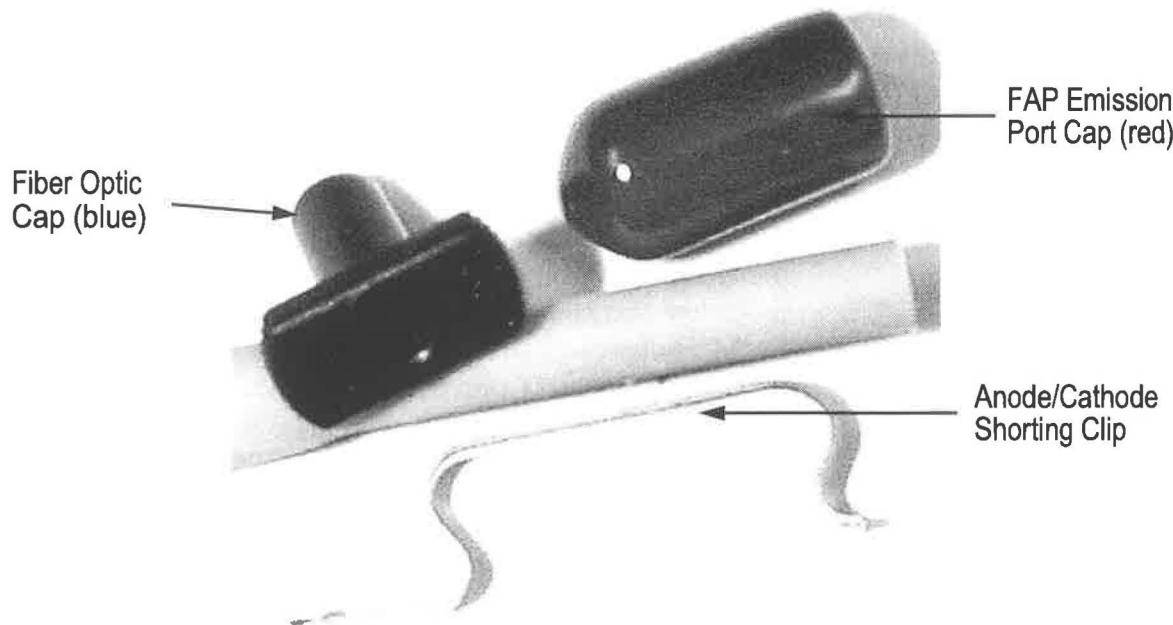
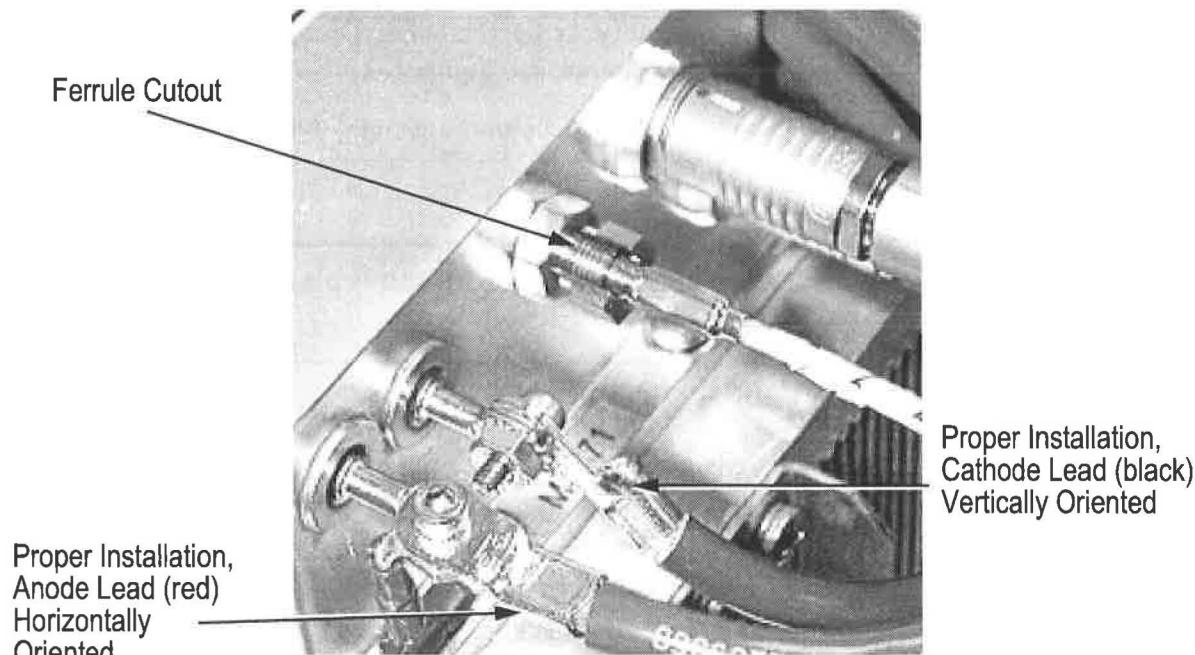

Figure 6-2. Fiber Optic Cap and FAP-I Anode/Cathode Shorting Clip
Figure 6-4. FAP-I Fiber Optic Connector
2. A shorting clip (Figure 6-2) must be installed between the anode and cathode terminals to avoid inadvertent ESD before the leads are disconnected from the terminals.
3. When disconnecting the fiber optic cable from the FAP-I assembly, a cap (Figure 6-2) should be installed over both the FAP-I optical emission port and the end of the fiber optic cable to protect them from accidental damage or contamination.
1. When removing or installing a fiber optic cable, do not allow the fiber optic cable to rotate while loosening the ferrule connector (Figure 6-4).
1. Install shorting clip (Figure 6-2) between anode and cathode of FAP-I assembly to be removed. Disconnect the anode and cathode connectors, see Figure 6-3.
- b. Note that the ferrule is cutout, see Figure 6-4. Carefully extract the fiber optic cable from the FAP-I and remove the ferrule. Immediately install the two plastic protective caps, one over the end of the fiber cable and the second over the FAP-I optical output port (Figure 6-2).
After connection, the red anode lead should be horizontally oriented and the black cathode lead should be vertically oriented. This is illustrated in Figure 6-4 and is done to minimize the potential of generating/picking-up EM noise.